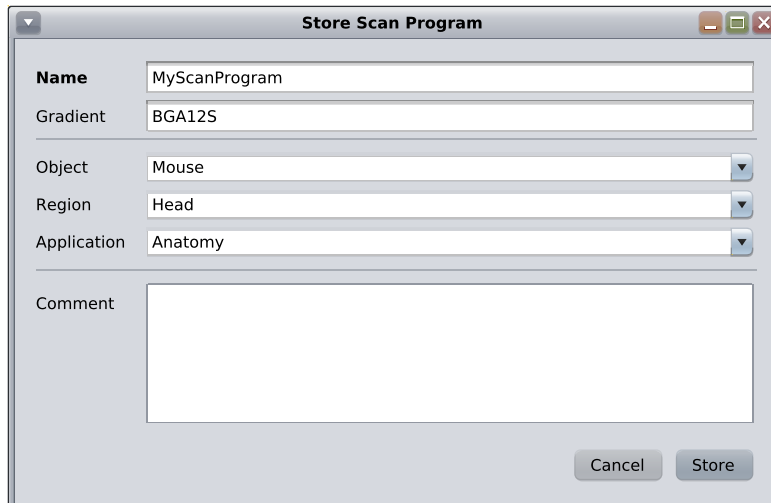

Figure 1.32: Dialog Store Scan Program
- ▶ A dialog (see Figure 1.32 [▶ 53]) is opened allowing the operator to enter a scan program name and select/enter an object, region and application under which the scan program should be stored. When **Store** is clicked, the dialog is closed and the scan program is stored.